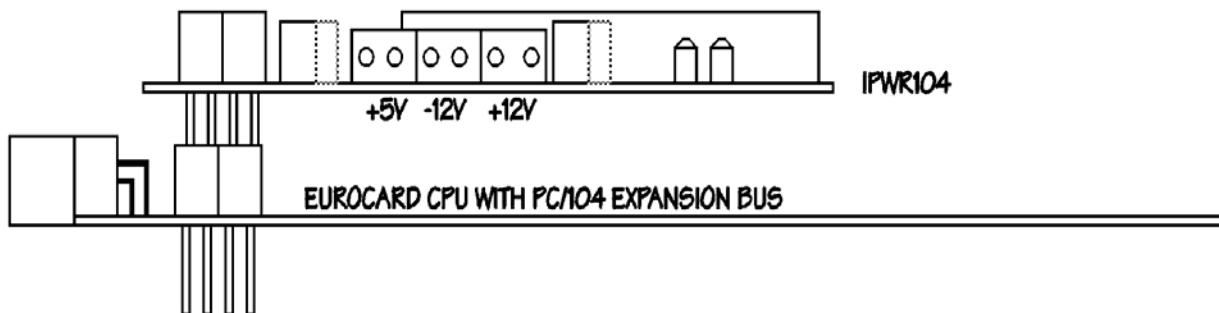

Fig. 1-2: 19" Eurocard rack installation with IPWR104HR and a EUROCARD cpuModule computer
- Fig. 1-2: 19" Eurocard rack installation with an integrated PC/104 RTD dataModule and EUROCARD cpuModule computer system**